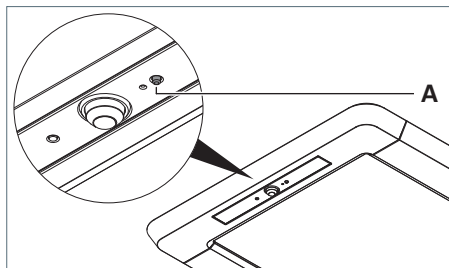
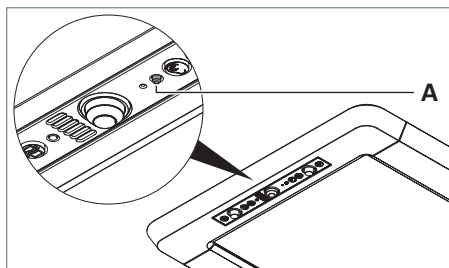

Fig. 39: Carrying out reset, version R.
Fig. 40: Carrying out reset, version RX.
- Press the key **A**, keep the key pressed and connect the luminaire to the power supply again, see Fig. 39 and see Fig. 40.